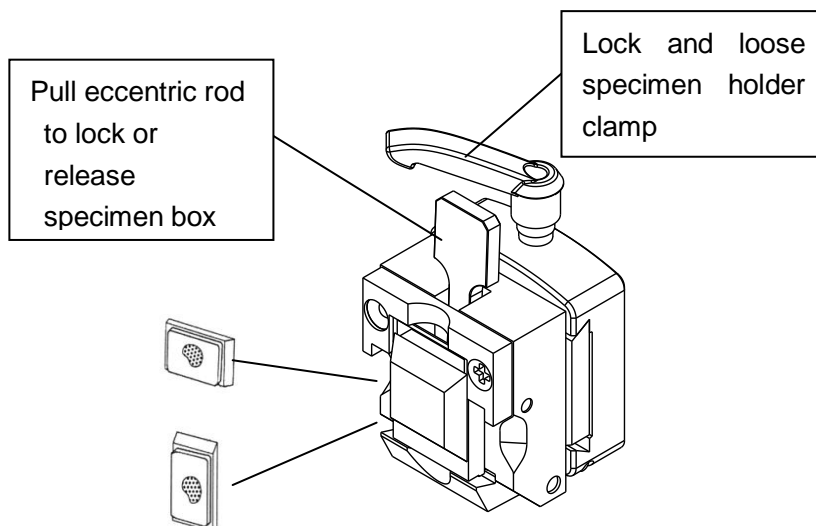

Fig 4
- Turning the spanner (Fig 4) on the specimen clamp can make the jaw in the state of braced and locked.